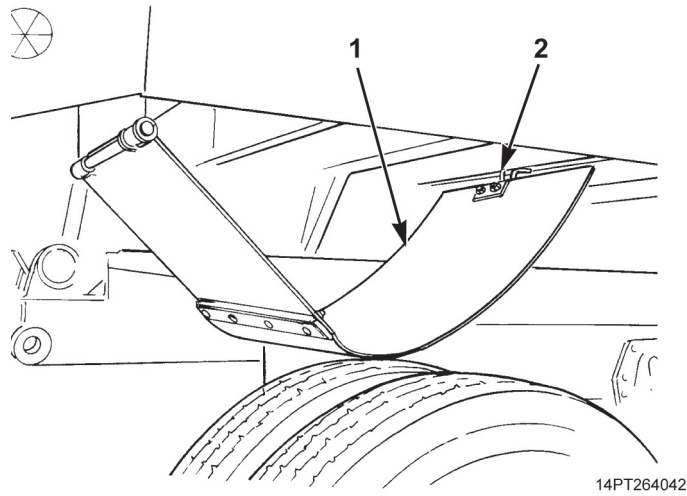

Figure 5. Releasing Mud Flaps.
- d. As required, release mud flaps (Figure 5, Item 1) from stowed position on hooks (Figure 5, Item 2).